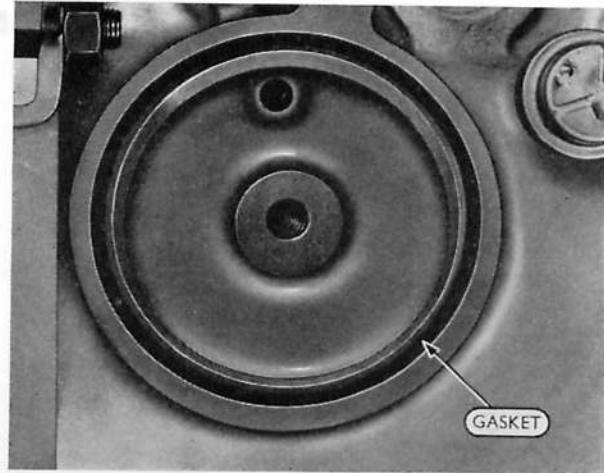

Fig. A.7. Attachment face for oil filter
6. Install the new gasket in the crankcase, making sure that the gasket is located flat and without kinks (Fig. A.7).